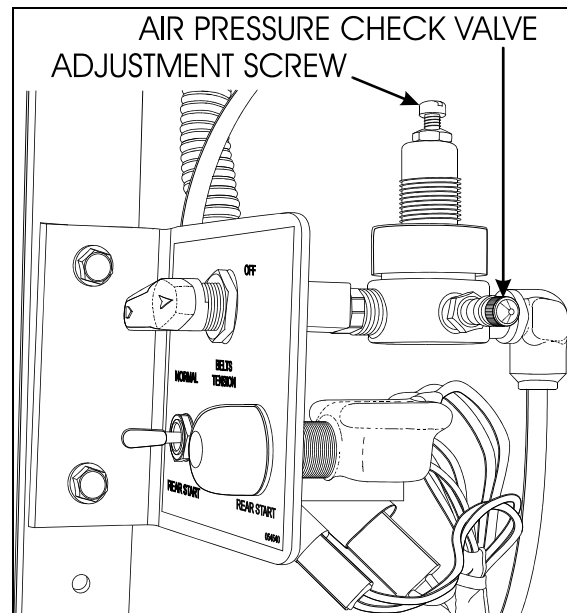

FIGURE 22: TENSIONING VALVE
1. Open engine compartment rear doors and locate the belt tensioner two-way control valve (Fig. 22), mounted above the engine R.H. side door next to the pressure regulating valve, then turn handle counterclockwise in order to release pressure and tension on belts.
3. Reset belt tensioning pressure control valve (Fig. 22). Pressure is factory set to 50 psi (345 kPa), periodically check proper pressure.